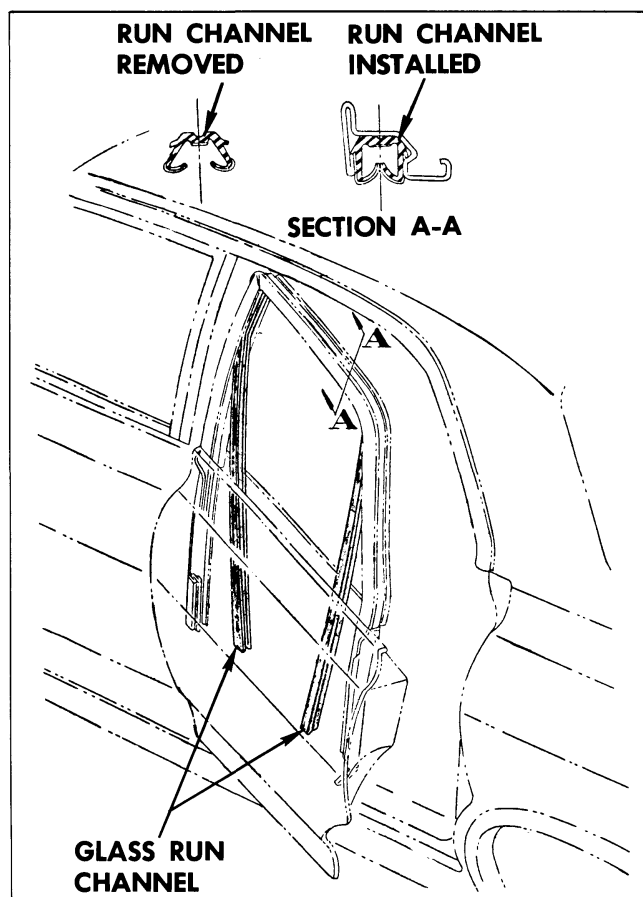

Fig. 12-42 Run Channel Assembly - 69 Style
3. With finger pressure, squeeze run channel together and gently pull run channel out of rear door upper frame and remove (Fig. 12-42).